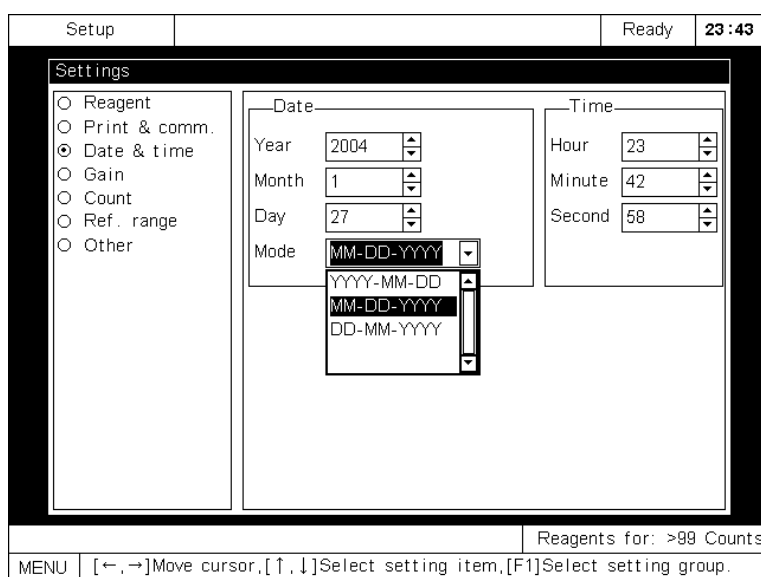

Figure 7-20 Setting date format
- Press [] or [] to move the cursor to the combo box right of **Format** in the **Date** field. Press [ENTER] to display the pull-down menu, as Figure 7-20 shows.